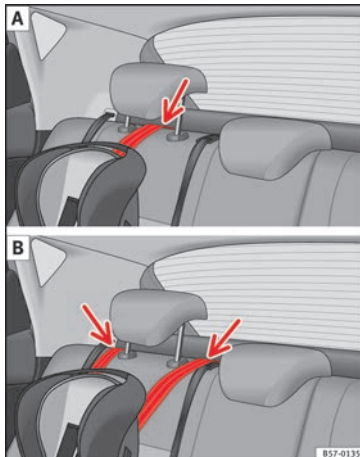

Fig. 34 Retainer strap: adjustment and assembly according to the Top Tether belt.
- Place the belt under the head restraint of the back seat »» **Fig. 34** (depending on the in-